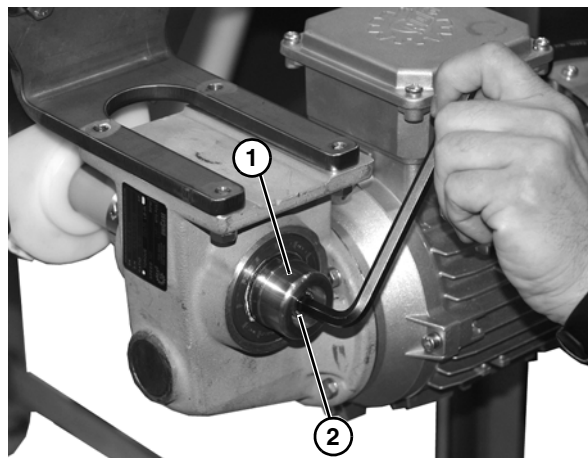

Figure 21
10. Install gear reducer end cap (**Figure 21, item 1**) with socket head screw (**Figure 21, item 2**).